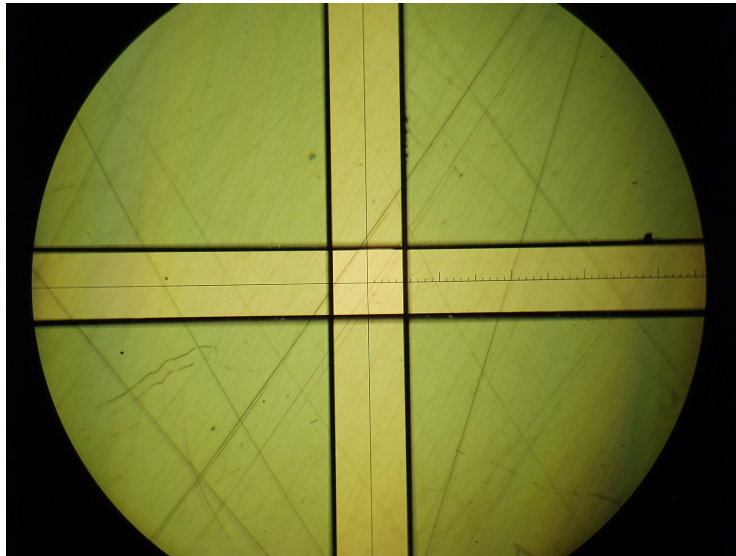

Figure 25: Image of the Mirror Surface with correctly adjusted Knife Edge Aperture
- Then rotate the other thumb wheel to change the gap between the upper and the lower knife edges until there is a quadratic measurement area of about 100 x 100 microns. (See figure 25.)